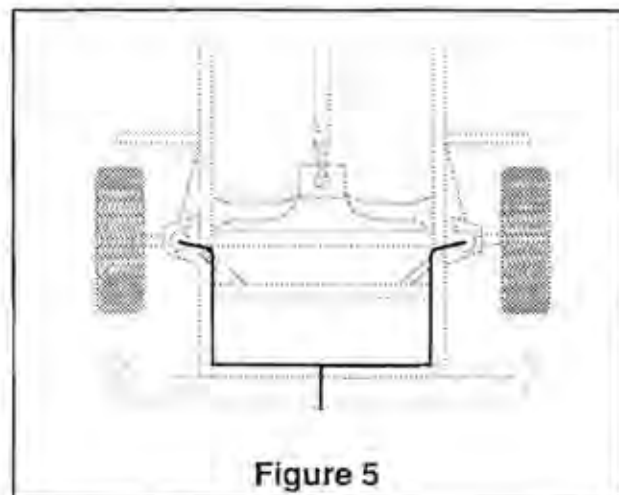

Figure 5
- H. Push the tubing onto the stem, covering all the barbs (Figure 5).
- K. Select a location for inflation valve in the gas cap well, the trunk, rear bumper, fender flange or behind the license plate, insuring that the valve will be protected and accessible with air hose (Figure 5 & 7).